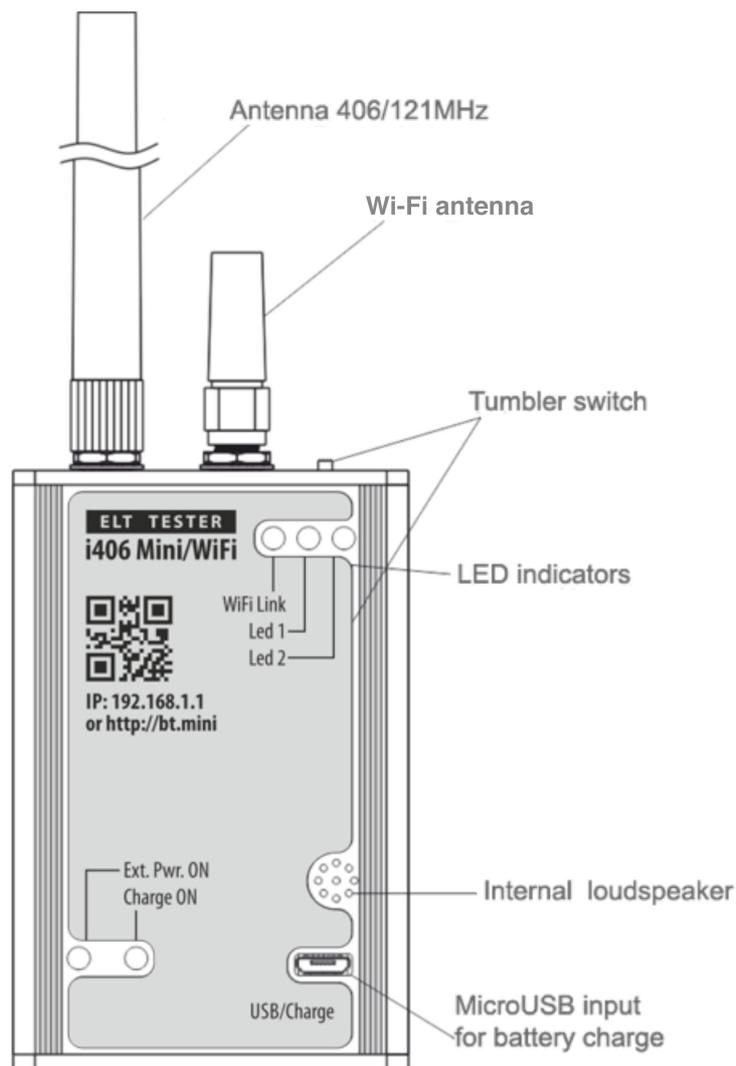

Fig. 4-1 Operation and indication tools
4.1.1 On the front panel of the tester there are LEDs and micro-USB input for accumulator charging (Fig. 4-1).
4.1.2 On the top there is ON/OFF switcher and two RF-connectors: for 406/121.5 antenna and for Wi-Fi antenna (Fig. 4-1).